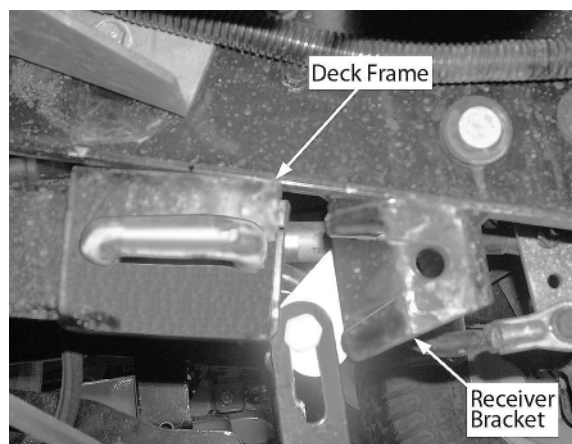

Figure 3-10
ets. Maneuver the deck frame as necessary to engage the release pins fully through the receiver bracket holes. Refer to Figure 3-10.
- Make certain the deck frame aligns with the receiver brackets on each side of the frame; then push the deck frame rearward onto the outside of the receiver brackets. Maneuver the deck frame as necessary to engage the release pins fully through the receiver bracket holes. Refer to Figure 3-10.